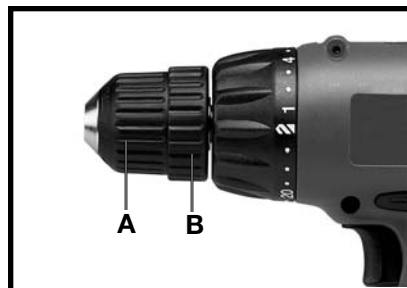

Fig. 2
2. The three-jaw chuck is designed for self-centering of the bit. Open jaws large enough by turning outer sleeve (A) Fig. 2, counterclockwise, when viewing the chuck from the bit end, so that bit shank can be inserted easily.
4. While holding the bit with one hand, turn outer sleeve (A) Fig. 2, clockwise until the bit is gripped in the chuck.
5. Tighten chuck by holding chuck ring (B) Fig. 2, with one hand while turning outer sleeve (A) clockwise with other hand. Tighten securely.